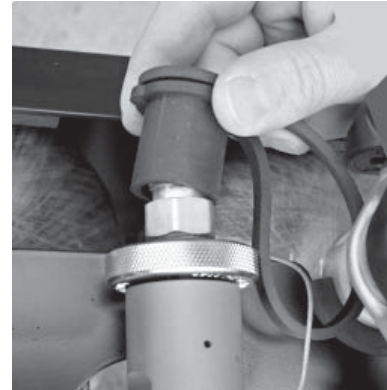
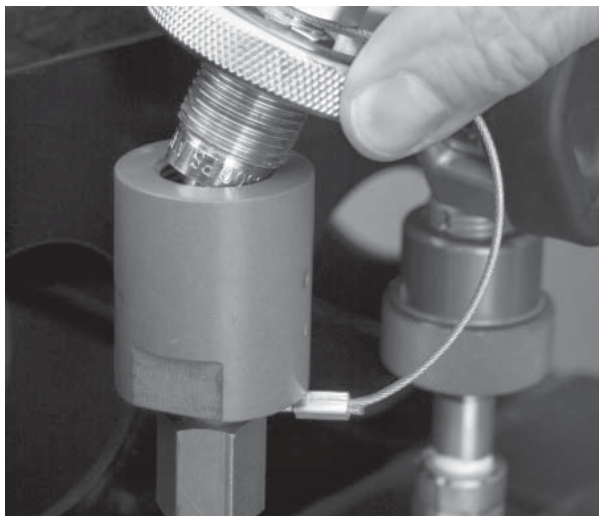

figure 9
figure 10
6.5. Remove rubber cap. (RCAP). (figure 9) Connect approved source of air to inlet fitting (DIN-F) (figure 10).